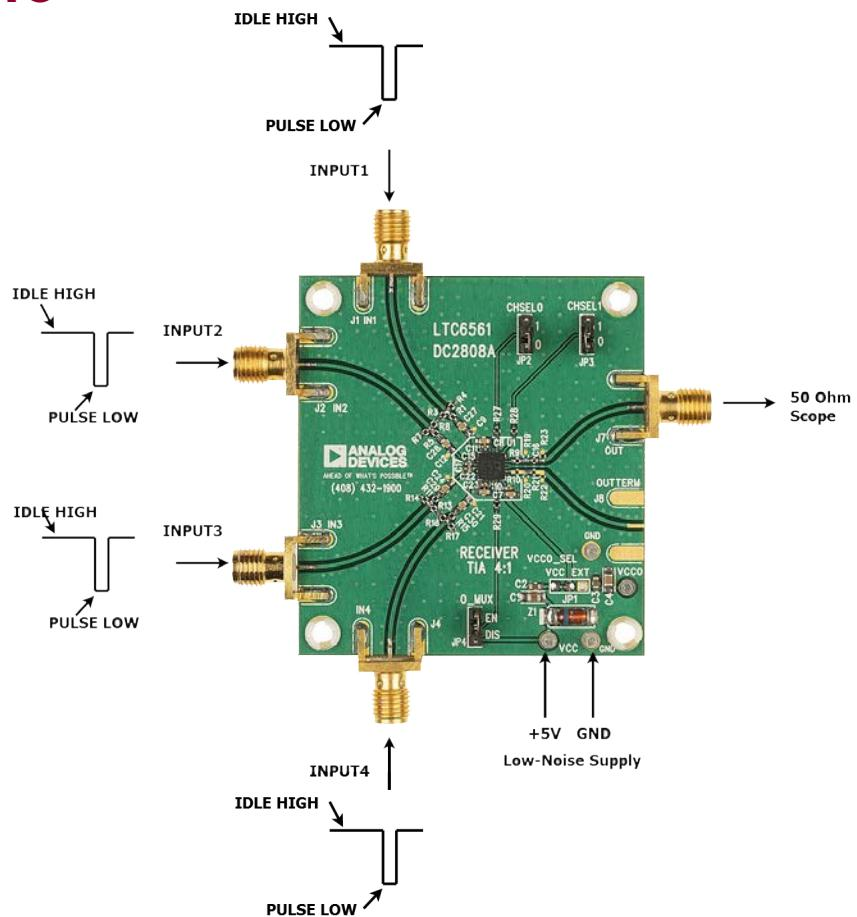

Figure 1. Connection Diagram
- 3) Connect a 5V low-noise power supply shown in Figure 1.  $V_{CC0}$  is hardwired to  $V_{CC}$  by default.